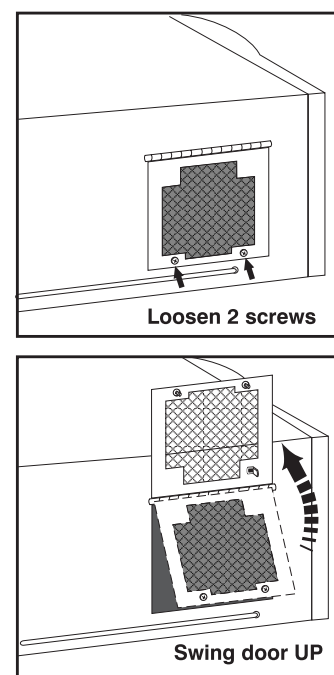

**Figure 4.3.
- See Figure 4.3. Loosen the 2 screws fastening the lamp door shut.